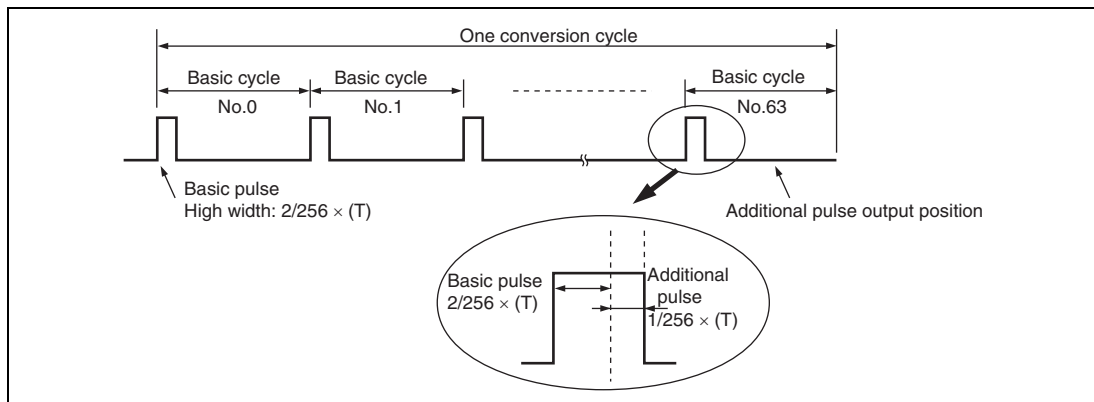

Figure 8.6 Output Waveform when DADR = H'0207 (OS = 1)
Here, the case of DADR = H'0207 (B'0000 0010 0000 0111) is considered. Figure 8.6 shows an output waveform. Because CFS = 1 and the value of upper eight bits is B'0000 0010, the duty ratio of the basic pulse is $2/256 \times (T)$ of high width.